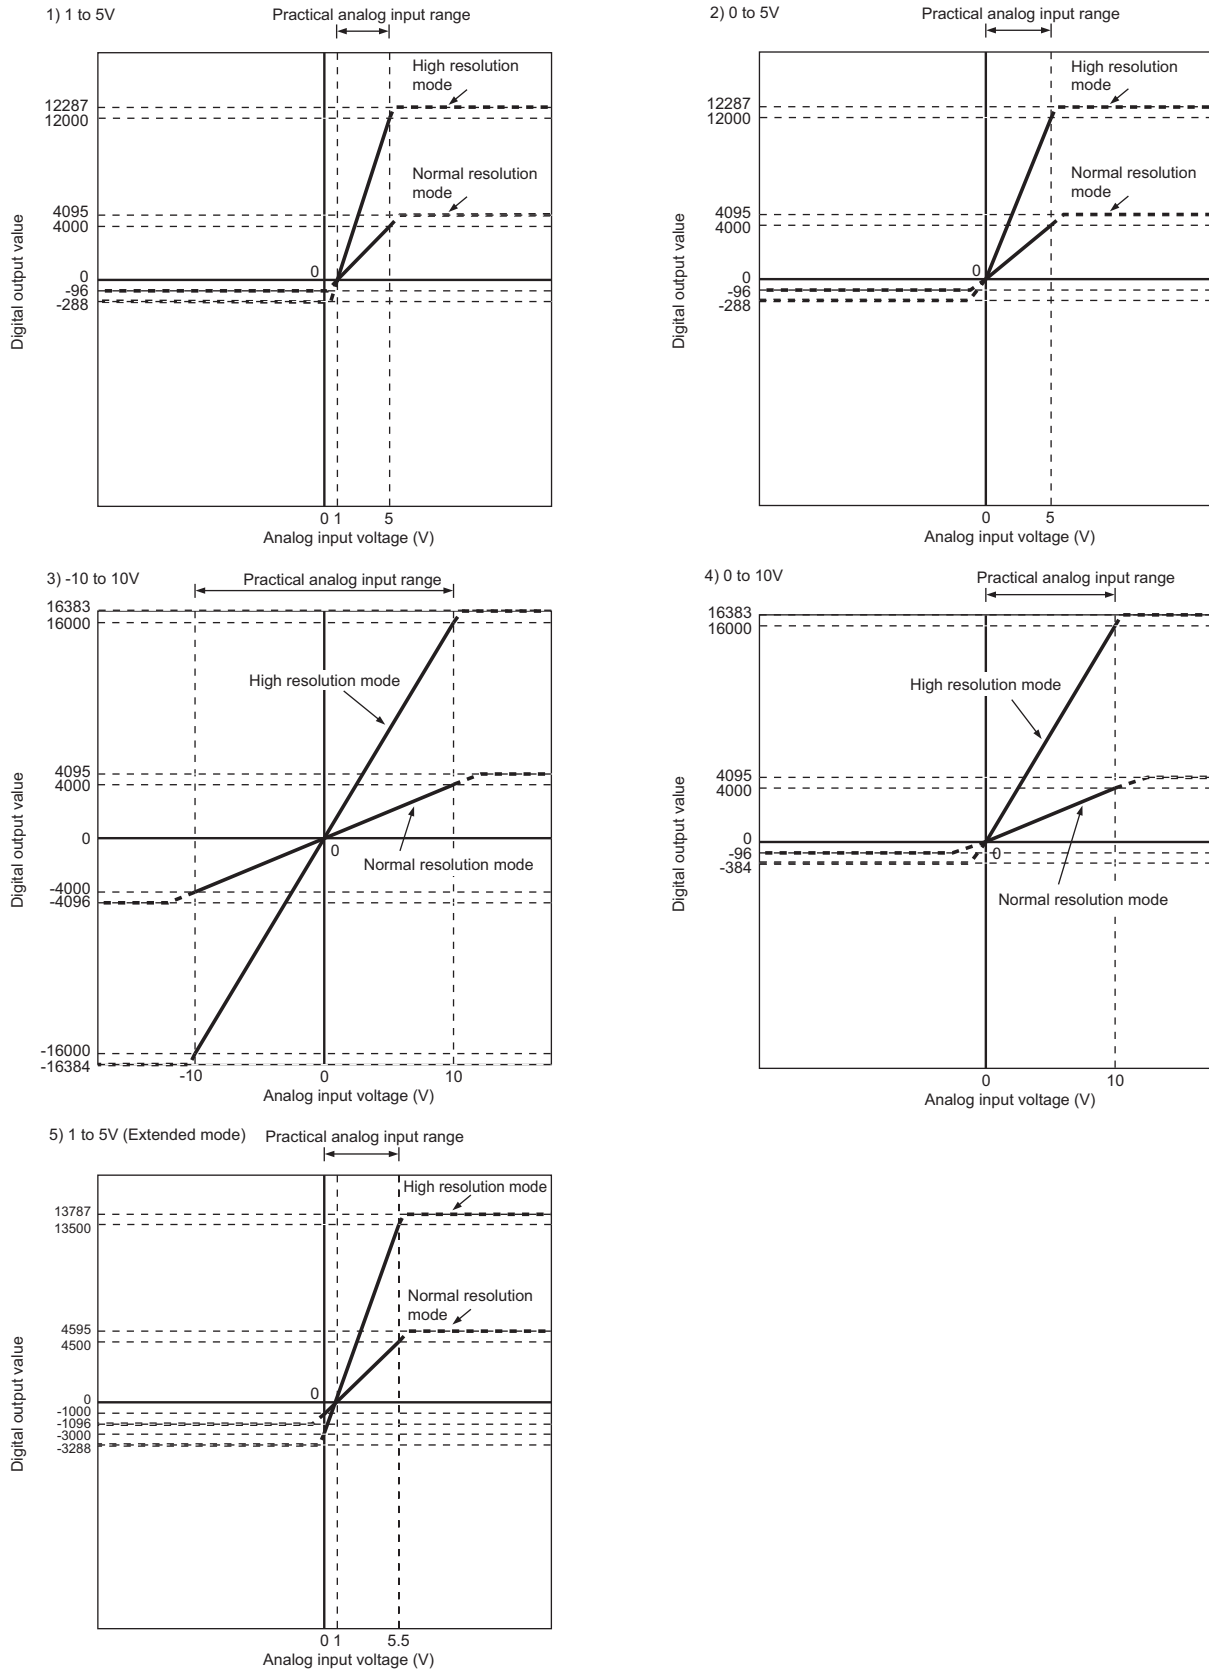

Figure 3.2 Voltage input characteristic
Figure 3.2 shows voltage input characteristics.
- (1) Set each input range within the practical analog input range and digital output range. If these ranges are exceeded, the maximum resolution and accuracy may not fall within the performance specifications. (Avoid using the dotted line area shown in Figure 3.2.)
- (2) Do not input an analog input voltage of ± 15 V or more. The input element may be damaged.
- (3) If an analog value that exceeds the range for the digital output value is entered, the digital output value will be fixed at the maximum or minimum value.